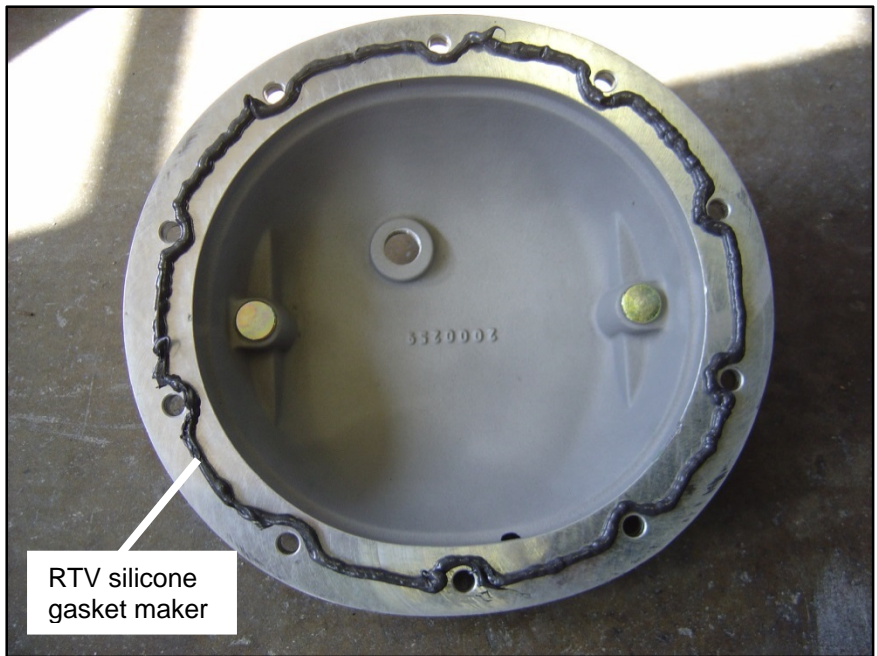

Figure 4
STEP 11. Apply a bead of RTV silicone gasket maker to the B&M Cast Aluminum Differential Cover. Run the bead inside the bolt holes (See Figure 4).